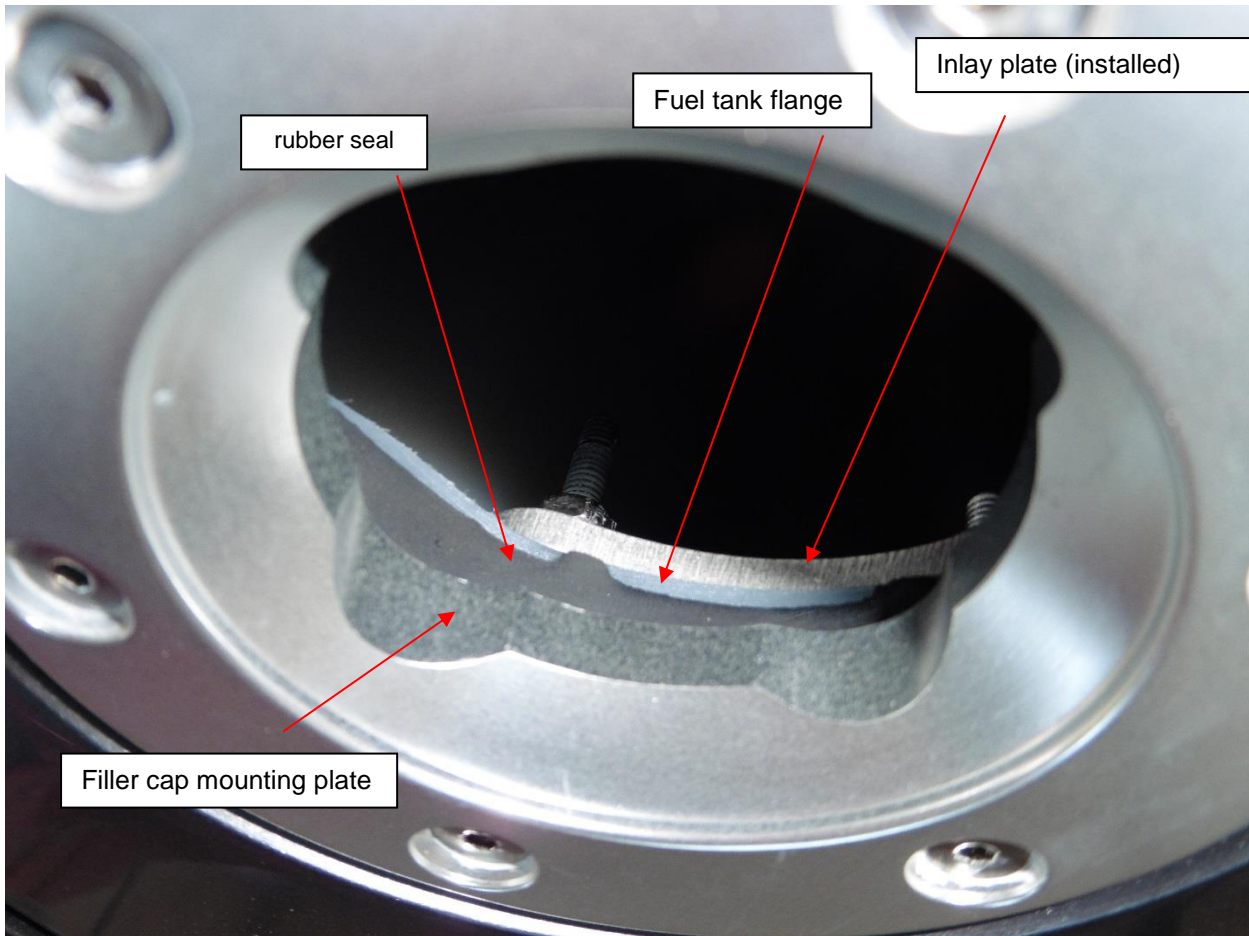

Fig. 9: fuell filler with attached inlay ring and rubber seal
- Place the rubber seal between the the fuel tank flange and the body (fig 9).